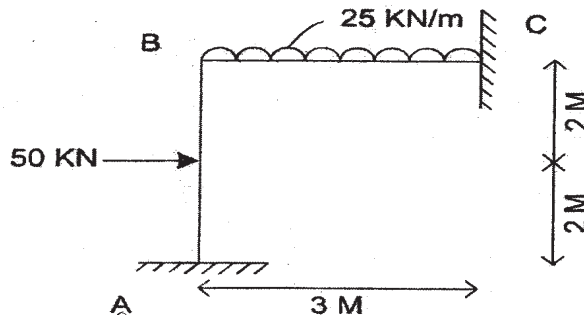

Fig. Q.7
- Q7) Analyze the frame as shown in fig.Q.7 by Flexibility method. Draw SFD & BMD Assume EI constant. [16]